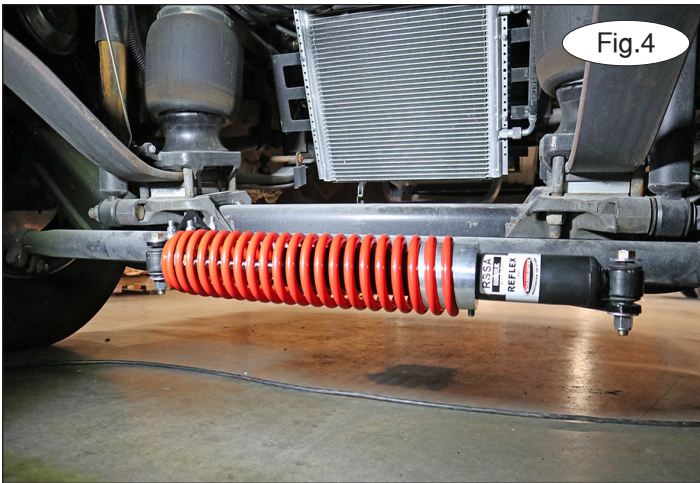

Fig.4
4. **For Exact Center installations:** Proceed to step 5. **For Reflex installations:** Test drive the vehicle to make certain that the stabilizer is adjusted properly. If the steering pulls to either side, center it by loosening the bracket U-bolts at the tie rod, and then reposition it. Tighten the bolts and test drive it once again, repeating the process until the proper adjustment is achieved. **This concludes the installation of the Reflex (Fig.4).**